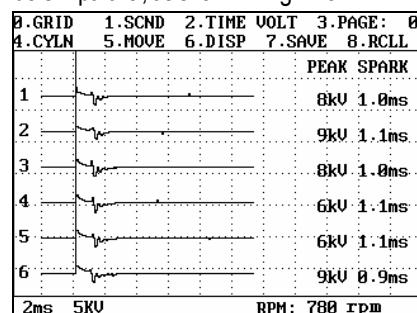

Fig.4-18
**Parallel wave:** It is to display waveforms of several cylinders in parallel, as shown in Fig.4-18.